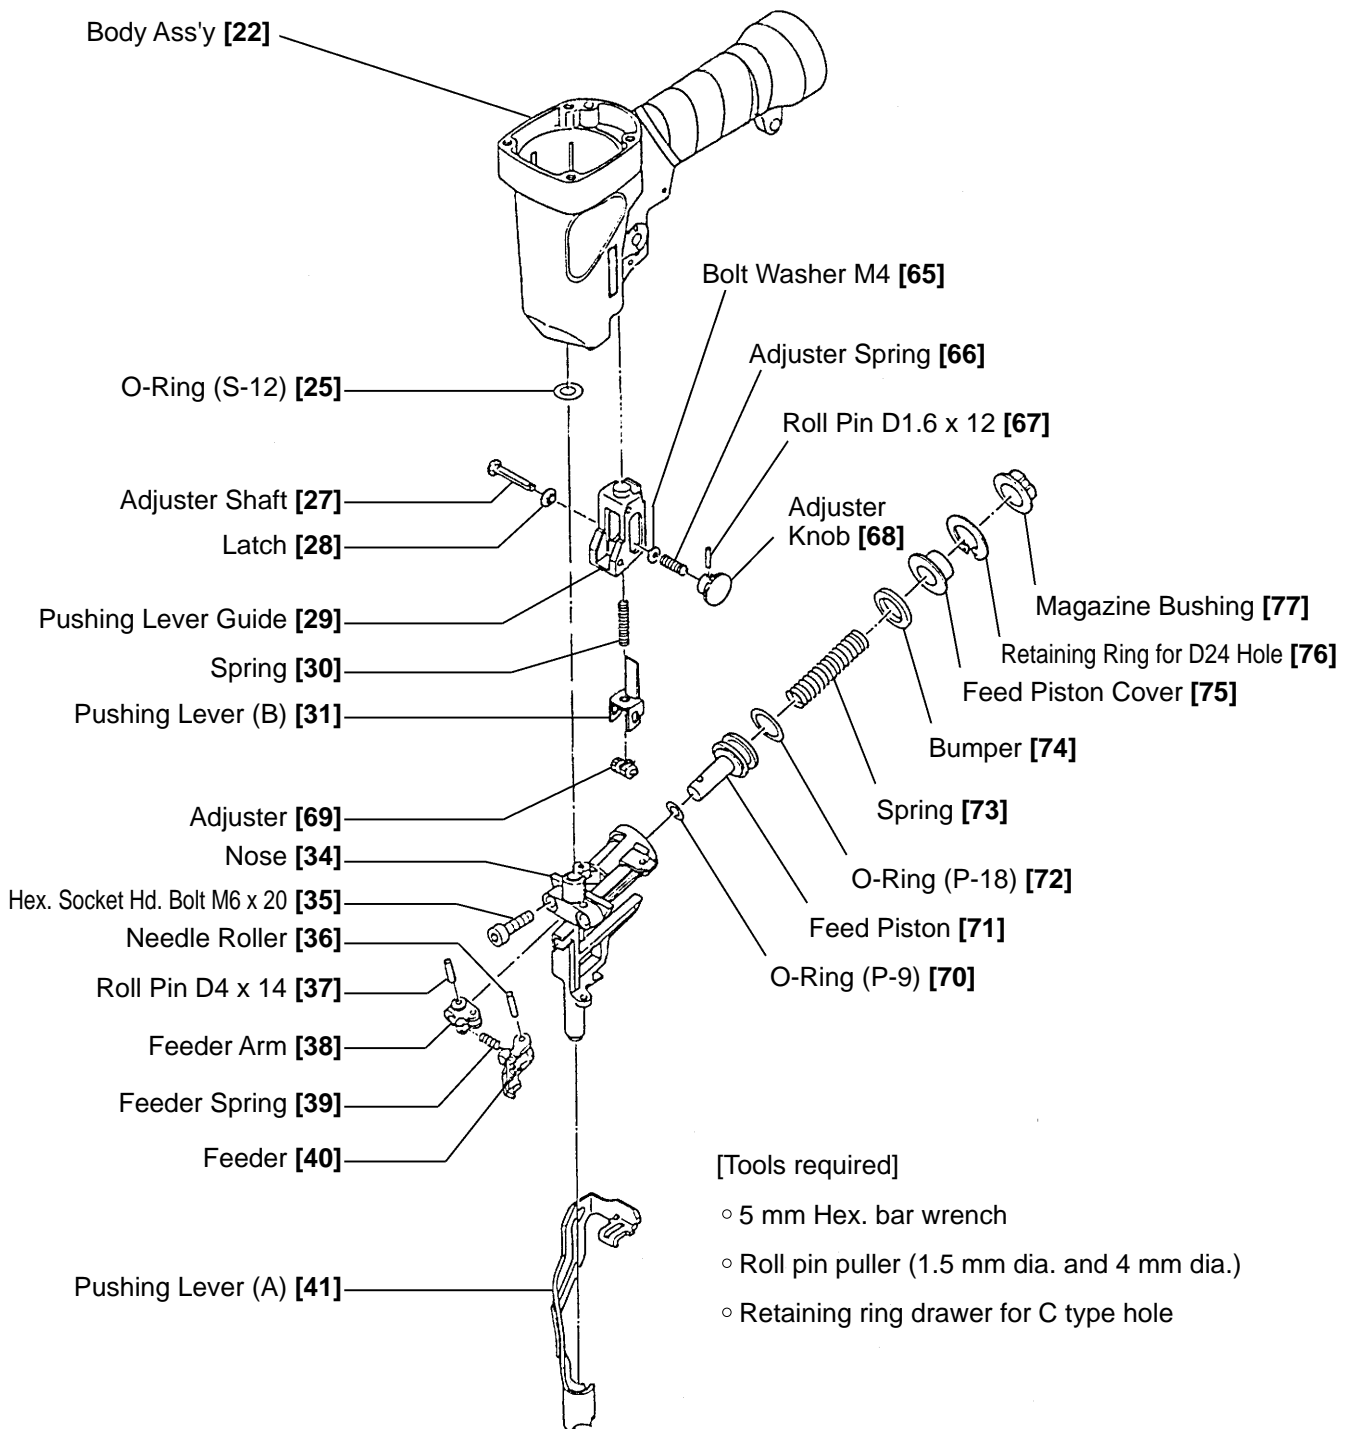

Fig. 13 Disassembly and reassembly of the driving section
- Remove the Retaining Ring (E-Type) for D6 Shaft [23]. Trigger (A) [26] and Change Knob (B) [54] can then be removed. The Pushing Lever Guide [29] can be removed by pulling off the Roll Pin D3 x 25 [51] and the Roll Pin D3 x 18 [50].
- Remove the Exhaust Cover [8] as indicated in item 2-2-(1).
- Insert a small rod from top of the Body Ass'y [22] and push the top surface of Valve Piston (B) [59] as illustrated in Fig.13, and then the parts forming the control valve unit excluding Valve Bushing (B) [55], the O-ring (S-18) [56] and the Head Valve O-ring [11] can be removed.
- Valve Bushing (B) [55] can be pulled out using a wire by hooking a bent end into the hole of Valve Bushing (B) [55]. Exercise care not to cause any damage to Valve Bushing (B) [55] interior with such a wire hooked portion.
- Exercise care not to damage Valve Piston (B) [59] and Valve Bushing (B) [55].
- Do not pull off Plunger (A) end with pliers or a similar tool.